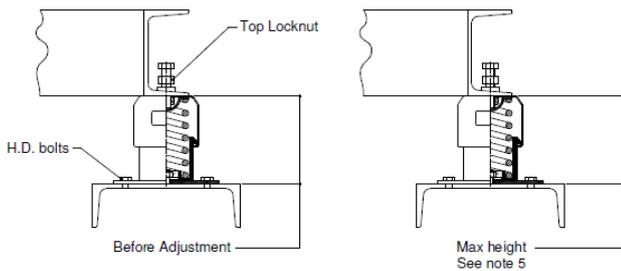

Figure 1.
5. Tighten the adjustment screw after initial deflection to raise the upper spring cover until desired height of AVM is achieved or the machine is level, see Figure 1.